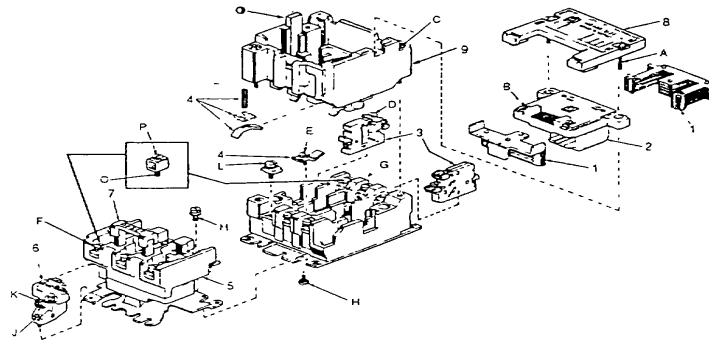

Figure 1 Contactor and Starter Assembly Drawing
This instruction bulletin illustrates and describes Class 8502 and 8536 two- and three-pole magnetic contactors and starters. It also contains assembly, modification and parts ordering instructions. To identify parts, refer to Figure 1.
❶ For 120 V only, for other voltages refer to Class 9001 Type KP units.
A melting alloy overload relay is supplied as standard with provisions for three thermal units. The contact unit (item 6 in Figure 1) of the melting alloy overload relay is available with a normally-open or normally-closed isolated alarm contact in addition to the standard normally-closed contact. The contact unit with alarm circuit contacts can be installed in the field (refer to Table 5).
It is unnecessary to remove any wiring to inspect or replace the contacts. To inspect or replace contacts, loosen the two captive screws (item C in Figure 1) holding the contact actuator to the contact block. Lift the contact actuator to expose the contacts.
To remove the coil, loosen the two captive cover screws (item A in Figure 1). Disconnect wires from the coil terminals and remove the cover. Remove and disassemble the magnet, coil and armature unit.